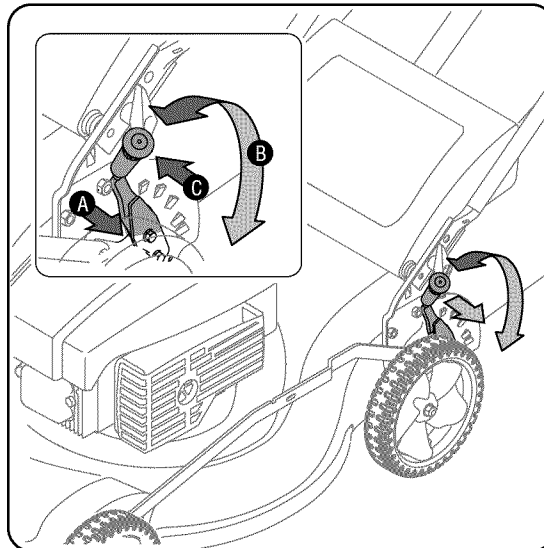

Figure 6
7. The cutting height adjustment lever is located above the rear left wheel. See Figure 6.